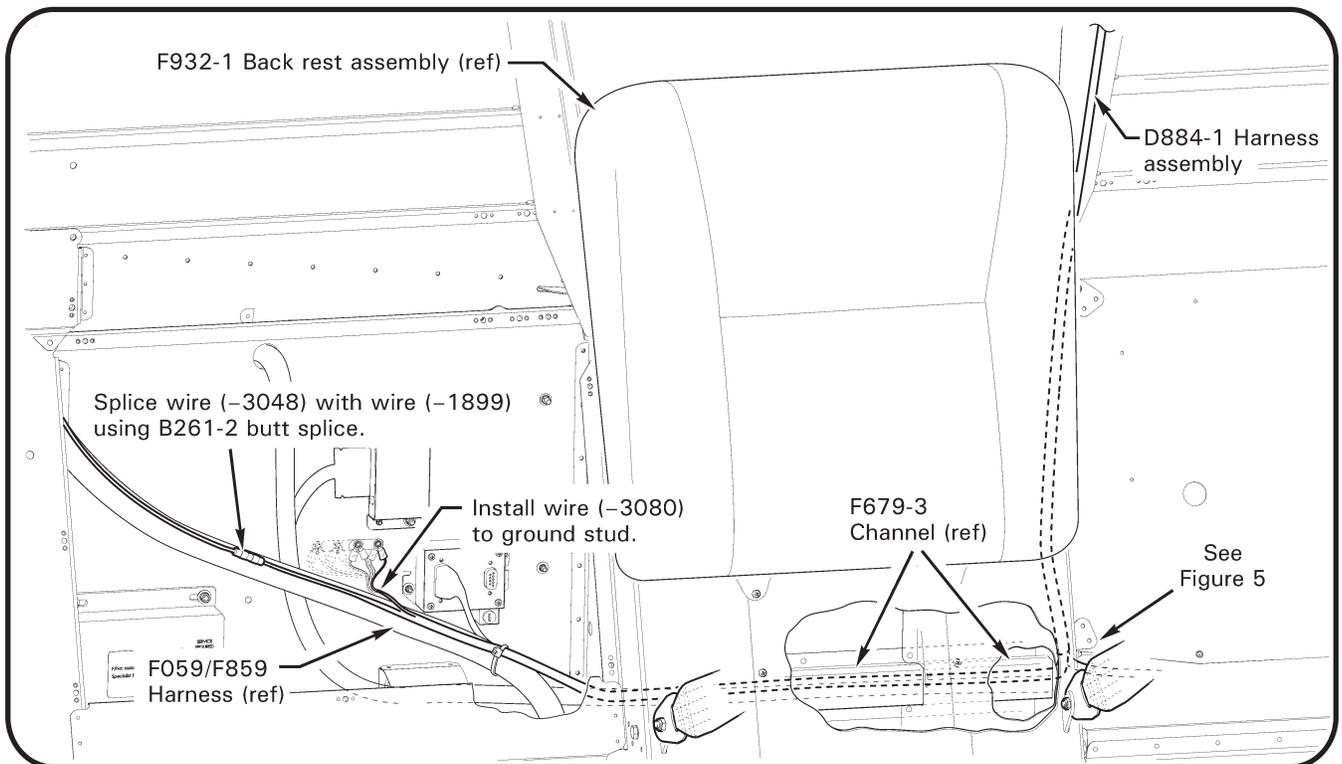

FIGURE 3 D844-1 harness assembly terminating locations
10. Refer to Figures 3, 4, and 4A. Route and secure D844-1 harness assembly to existing wire harness along LH side of vertical bulkhead using appropriately-sized ty-raps. Cinch ty-raps until snug without over-tightening, and trim tips flush with head. Route wires (-3080) & (-3048) thru F679-3 channel. Secure harness assembly wires as follows: